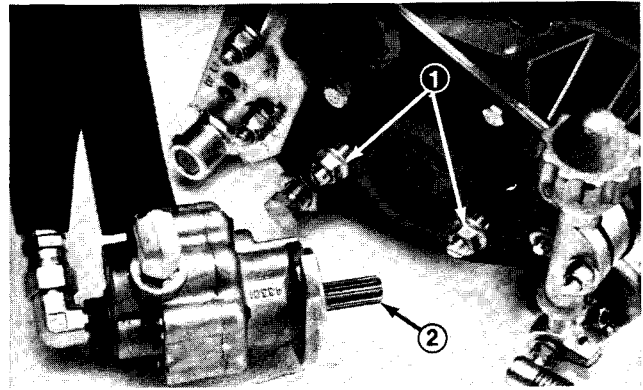

Figure 21
2. Loosen reel motor mounting nuts (Fig. 21). Rotate the motor clockwise so motor flanges clear studs and pull motor off of cutting unit.